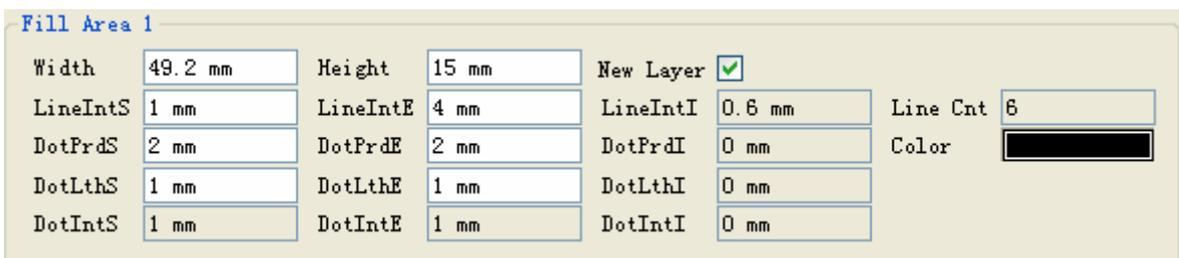

Figure 6-30 Fill Area 1
- LineIntE:** end line interval. The interval between the last line and the previous line in this fill area. LineIntS and LineIntE decide the LineIntI and Line Cnt of this area. If LineIntS is not equal to LineIntE, the software will compute LineIntI and Line Cnt according to not greater than the integral of this area height, like Figure 6-30. After alter the line interval, click Apply and the result display.